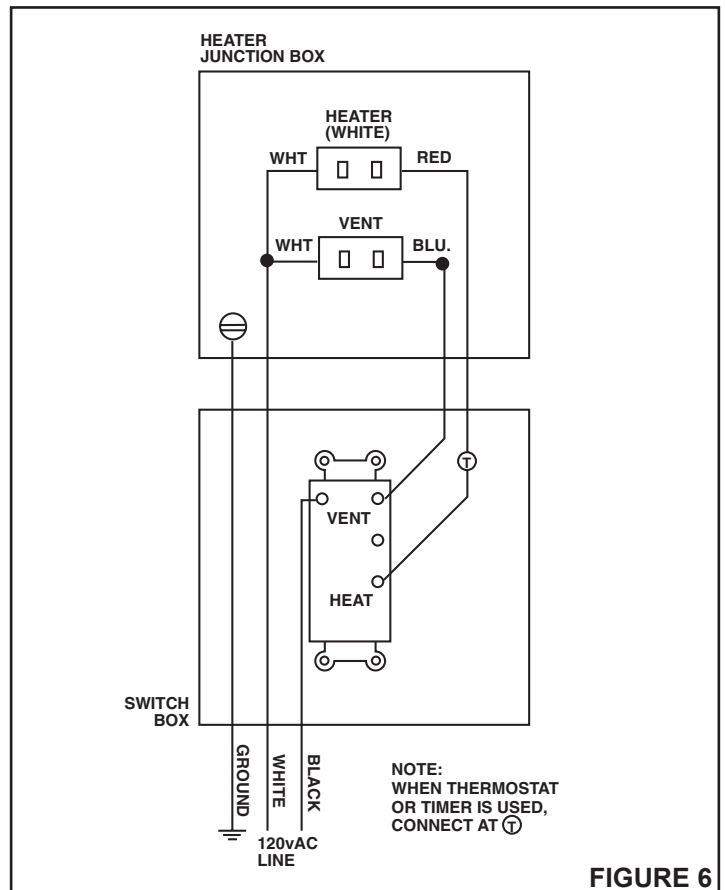

FIGURE 6
2. **Refer to Figure 6.** Run wiring and make wiring connections.
Refer to Figure 6.
6. From below, make wiring connections as shown in figure 6.